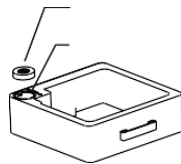

Figure 3
10.6 Remove the water tank cover according to the label, from the water injection port to add 1.5L clean water (Figure 3).